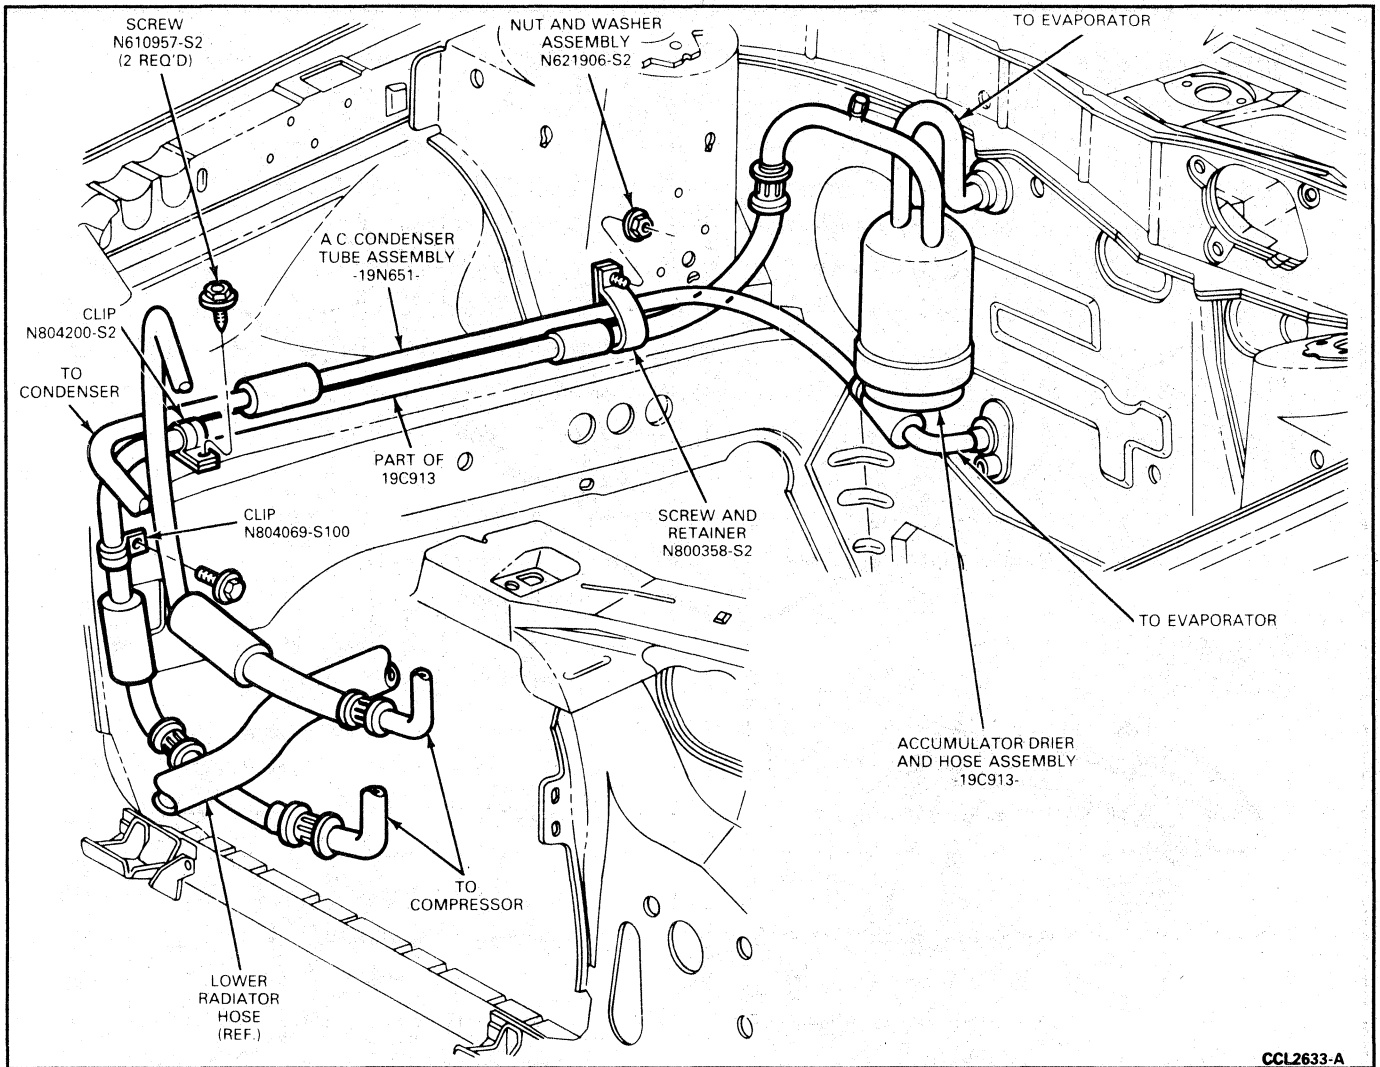

FIG. 59 A/C Hose Installation
3. Route new refrigerant line with protective caps installed (Fig. 59).